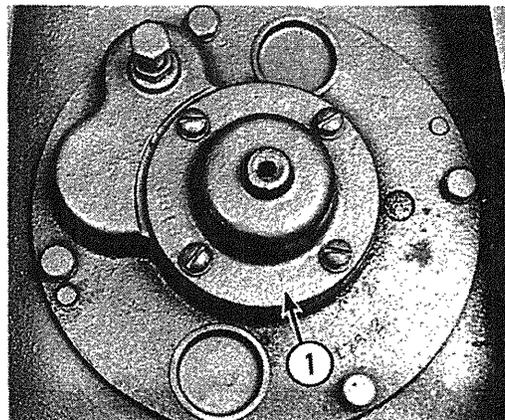

Fig. 4-2
- C. Remove four screws and bearing retainer (1, Fig. 4-2).